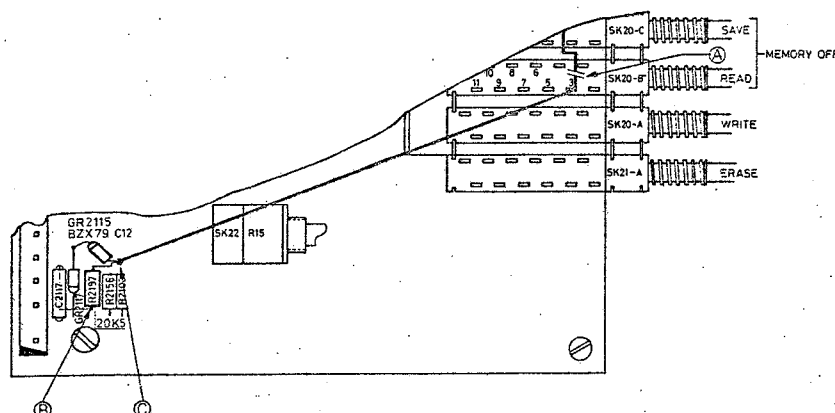

Fig. 1. Part of variable persistence and storage unit.
2. Interrupt the track (on the track-side of the p.w.b.) between point 3 of SK20B (READ) and the anode of GR2117 as indicated in fig. 1 (A).
4. Solder one side of a resistor of 20k5 (5322 116 55255) on the point, which is connected with C2117 as indicated in fig. 1 (B) (on the component side of the p.w.b.).
5. Solder between the resistor of 20k5 and the anode of the zenerdiode GR2115 a zenerdiode (GR2115) BZX 79 C12 (4822 130 34197). The cathode of GR2115 to the anode of GR2117 (see fig. 1).
6. Mount an interconnection wire between the anode of GR2115 (fig. 1 (C)) and point 3 of the switch SK20B (READ).